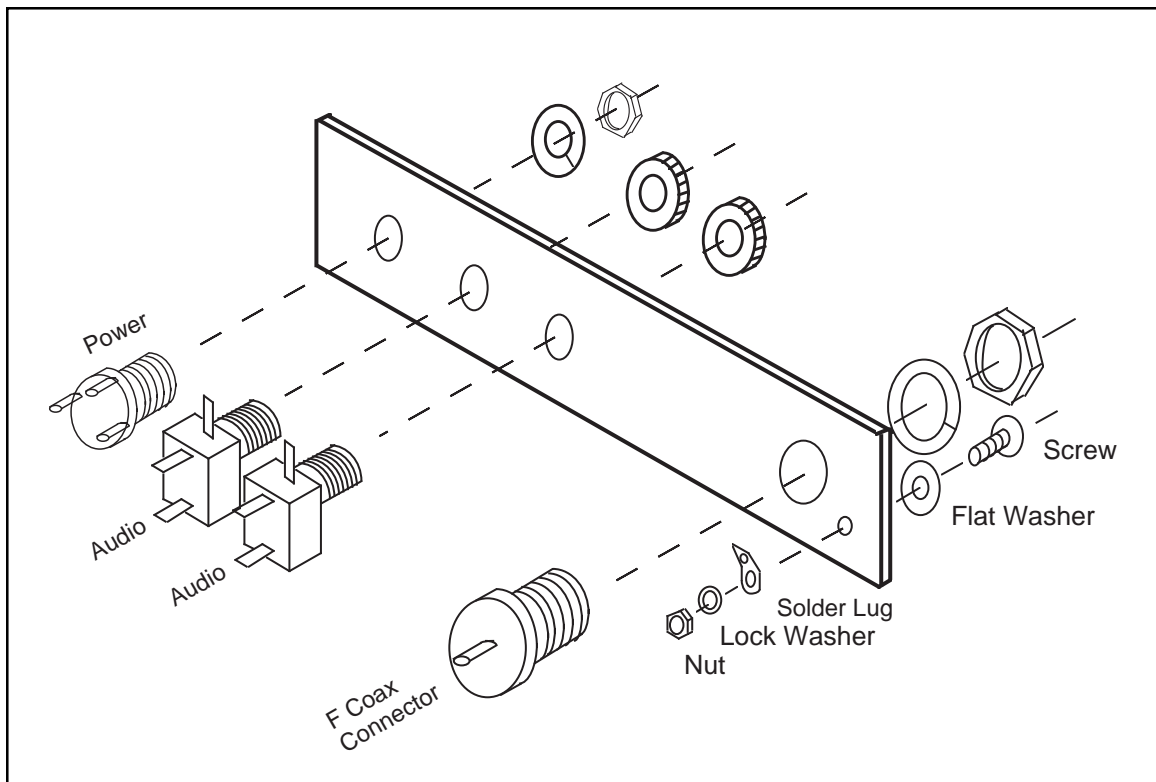
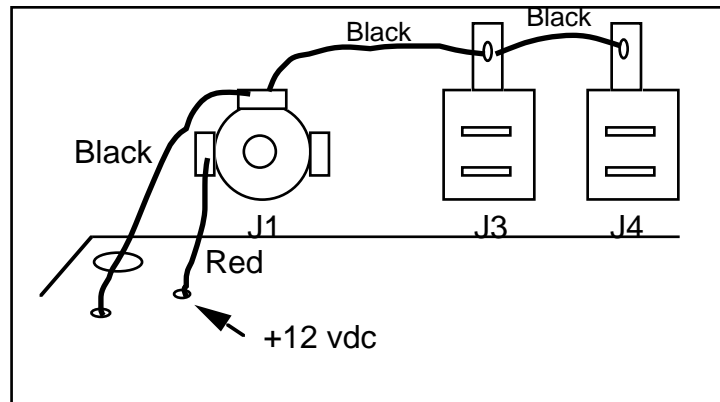

Figure 9. Rear panel assembly
Figure 13. Rear panel power jack (J1) wiring detail
7. ☐ Mount the power connector, two audio jacks, the antenna connector, and a solder lug to the rear panel (Figure 9). All connectors are passed through the panel from the “inside” with washers and nuts located on the decal side of the panel. Tighten the nuts firmly with a crescent wrench or pliers, being careful not to slip and cut the decal.
12. ☐ Be sure that the power connector is installed as shown in Figures 9 and 12. Looking at the connector from the PC board side of the back panel, there should be one solder lug at 9 o'clock, one at 12 o'clock, and the third lug at the 3 o'clock position. Install a red wire to the power connector (9 o'clock lug) and PC board (Figure 13). Install black wires linking the PC board ground plane to the power connector and the vertical lugs on both J3 and J4 as seen in detail below. This will complete the soldering portion of the receiver kit assembly. Before proceeding, visually inspect the board for any missing components or solder bridges.